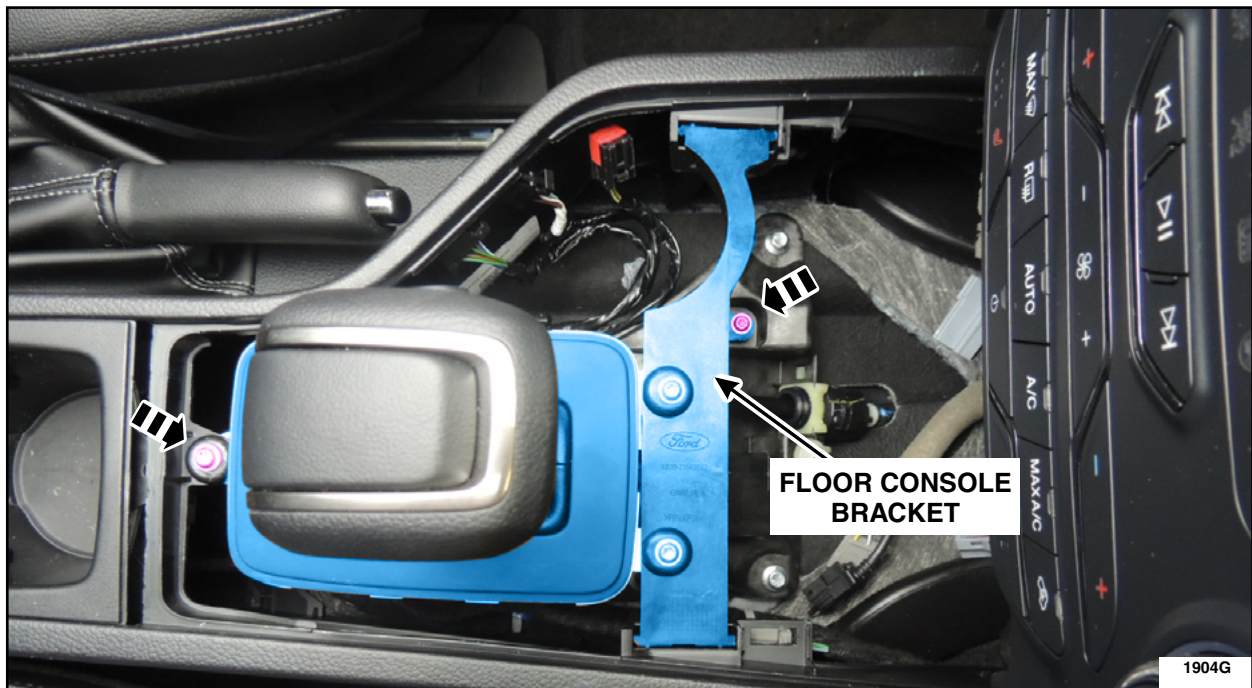

FIGURE 6
6. Remove the rearward selector lever retainer and the floor console bracket retainer. See Figure 6.
10. Install the rearward selector lever retainer and the floor console bracket arm retainer. See Figure 6.